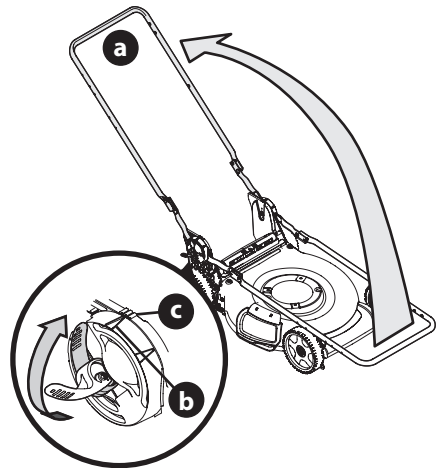

Figure 9
- While stabilizing mower so it doesn't move, lift the upper handle up (a) (Figure 9). Do not crimp blade control cable while lifting the handle up.
- When lifting the upper handle ensure the position indicator (b) aligns with one of three handle positions (c) (Figure 9, inset).
- Lock the two handle release levers (Figure 9, inset).